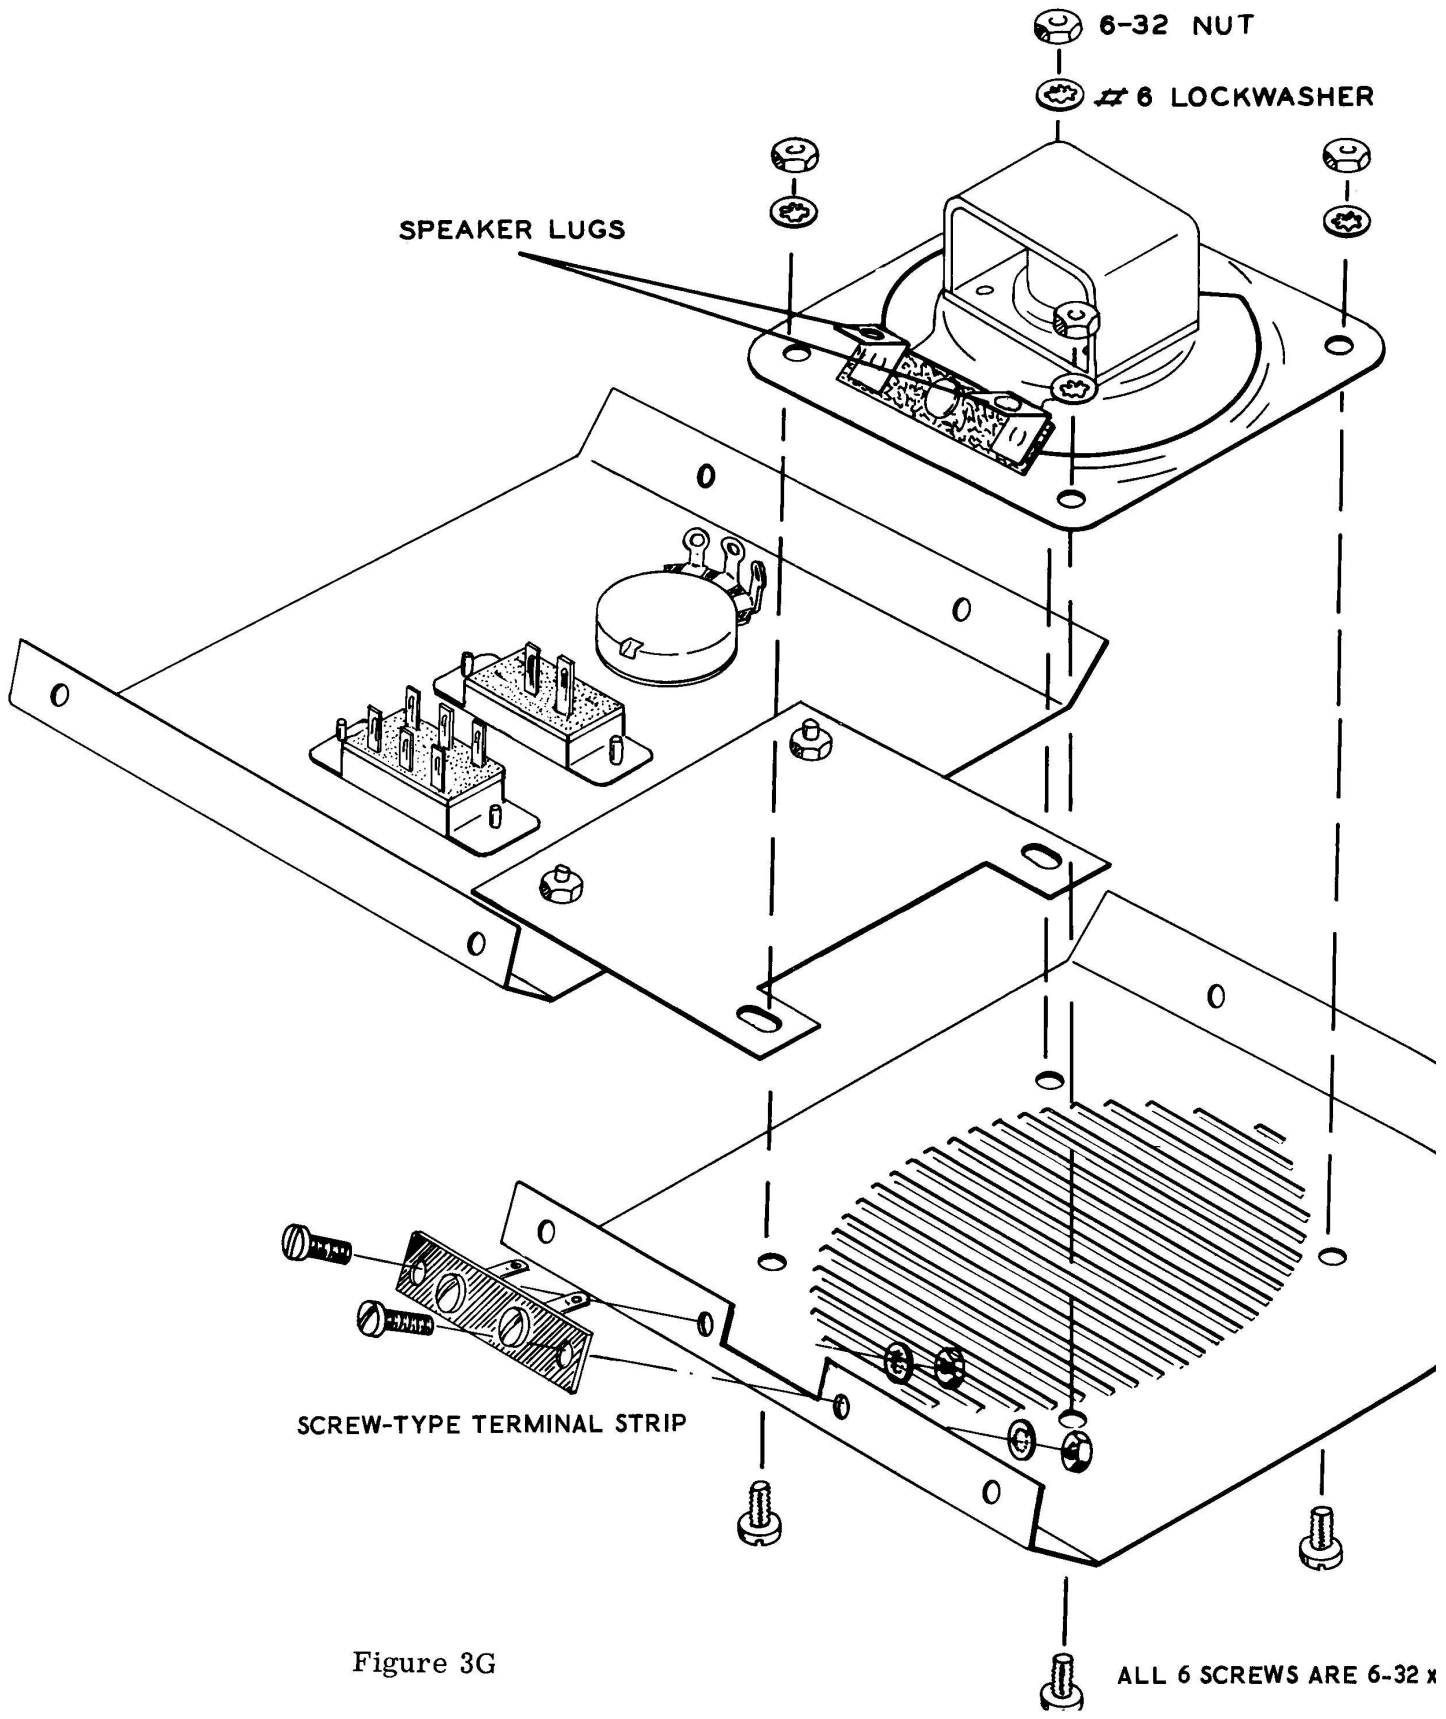

Figure 3G
- ( ) Place the other half of the master front panel as shown in Figure 3G and fasten the screw-type terminal strip to it using 6-32 x 1/4" screws, #6 lockwashers, and 6-32 nuts.